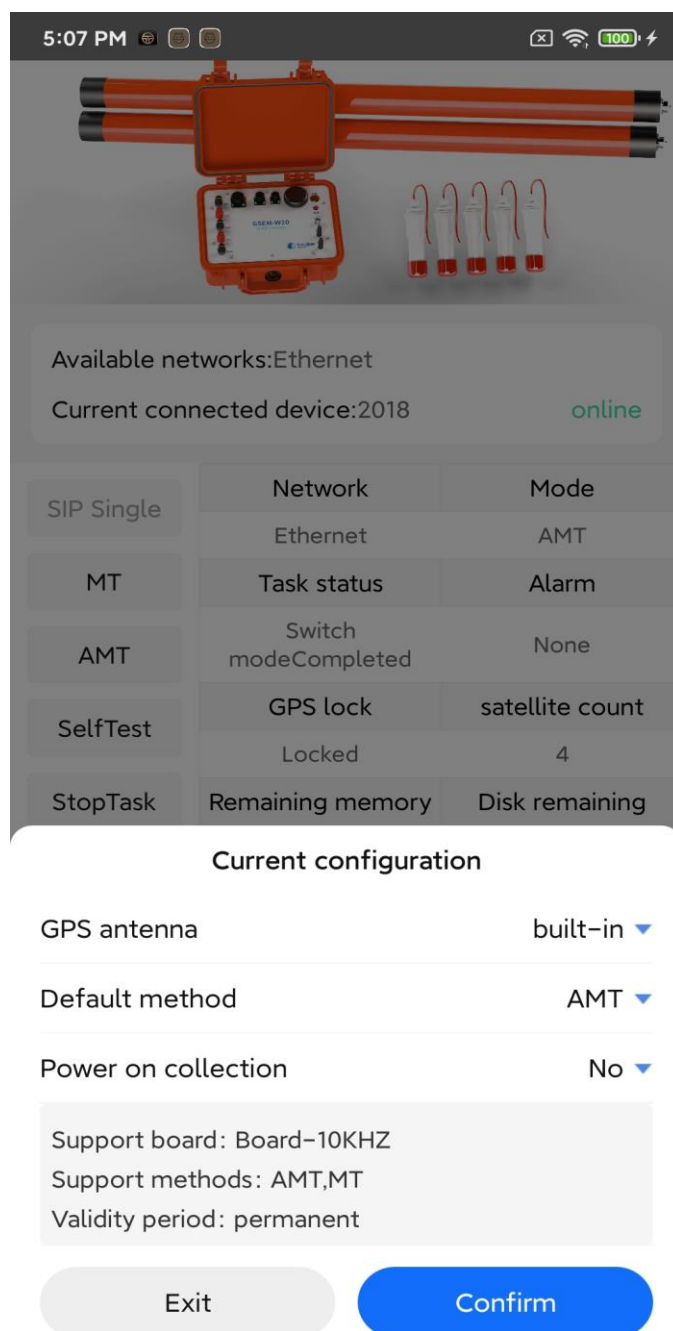

Figure 3-2. Instrument configuration pop-up
1. Click "Configure Instrument" on the main page to pop up the configuration box, as shown in Figure 3-2.